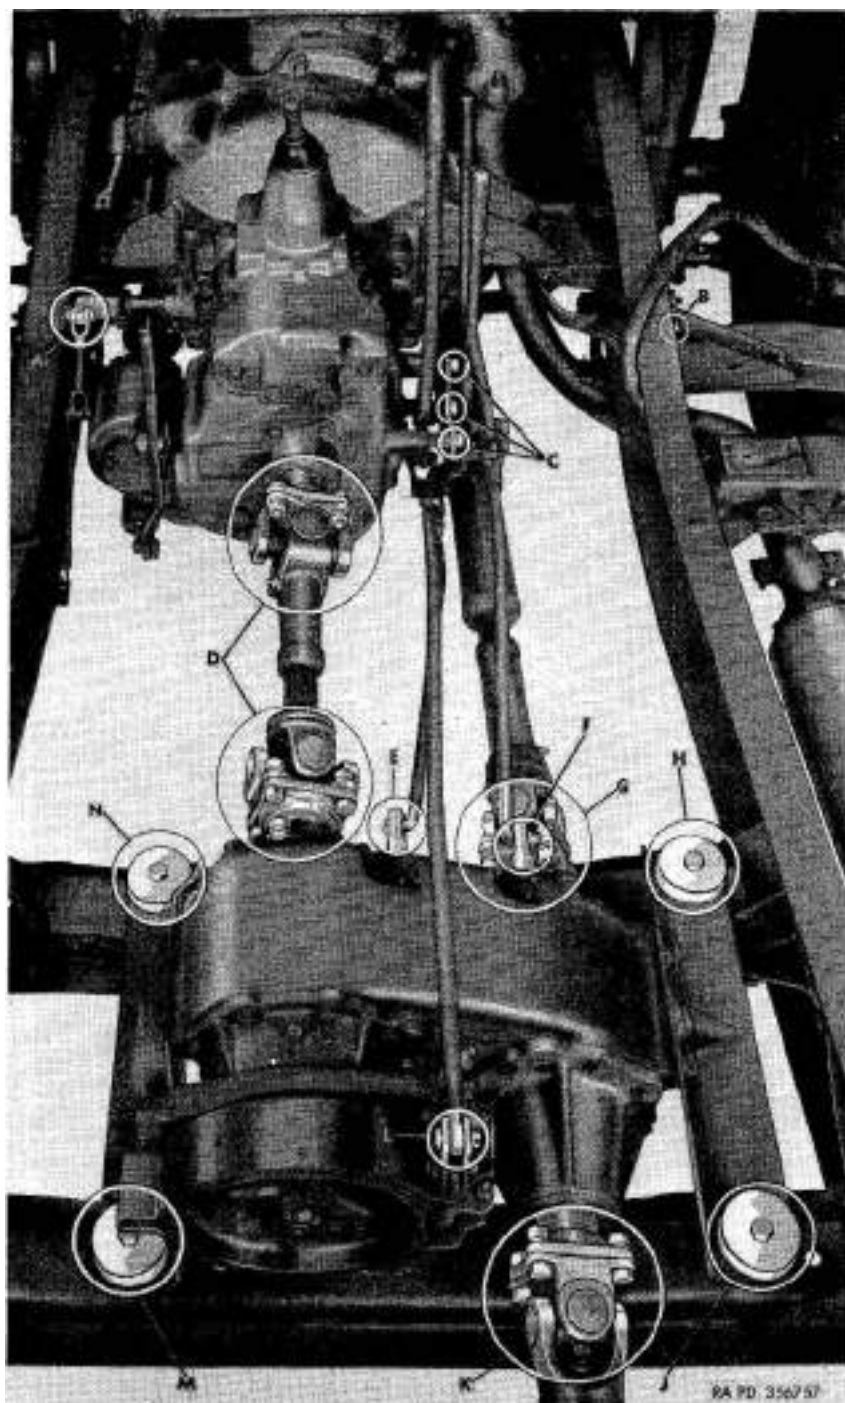
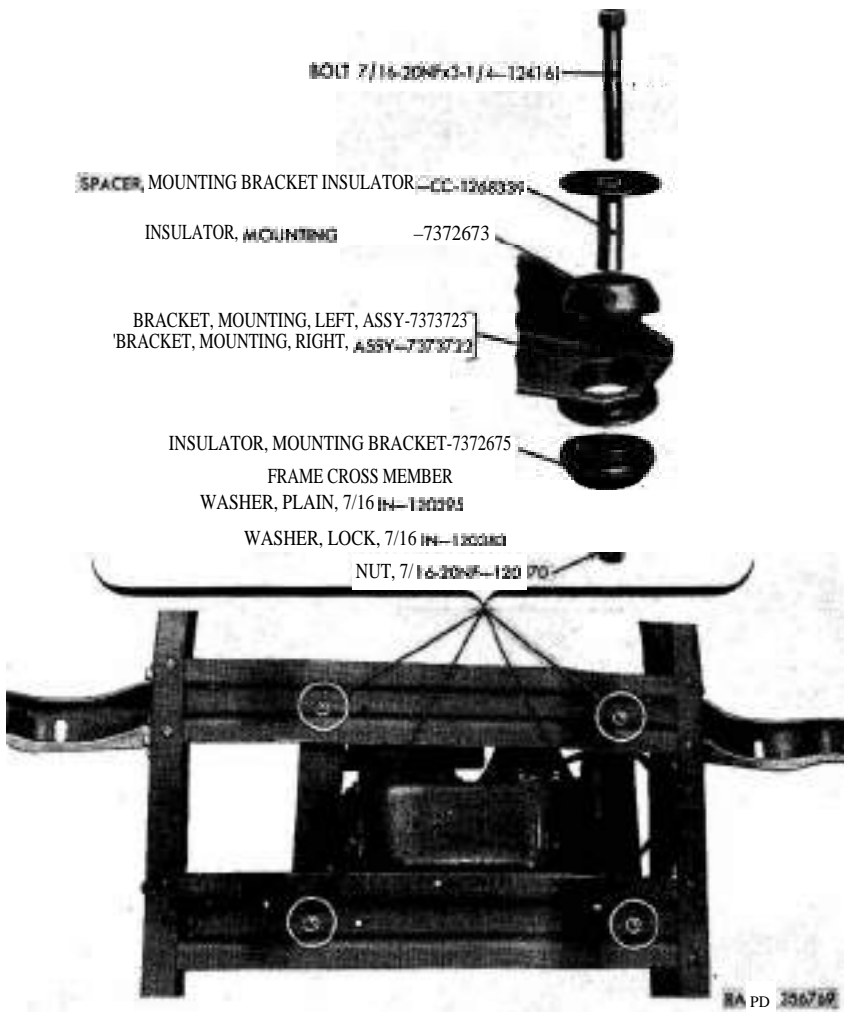

Figure 24. Power plant and transfer disconnect points.
Figure 28. Transfer mounting parts.
- (1) Remove transmission-to-transfer propeller shaft assembly (four bolts, nuts, and lock washers, each companion flange) (D, *fig. 24*).
- (2) Disconnect transfer shift lever control rods from transfer shifter shafts and hand brake rod from hand brake (E, F, and L, *fig. 24*) (three cotter pins and one clevis pin). Remove levers and bracket assembly from transmission (three screws and lock washers) (C, *fig. 24*).
- (3) Disconnect bonding ground strap on clutch housing at frame side rail (B, *fig. 24*) (one cap screw, nut, and two lock washers).
- (6) Remove cotter pin and clevis pin and disconnect clutch operating rod from clutch release fork lever (A, *fig. 24*).
Remove front axle and rear axle propeller shaft assemblies (four bolts, nuts, and lock washers, each companion flange) (G and K, fig. 24).
Remove nuts, plain washers, and lock washers from the bolts (H, J, M, and N, fig. 24), which attach transfer assembly to frame cross members (fig. 28). Lift transfer from frame cross members and remove transfer mounting bracket insulators, mounting bracket insulator spacers, and bolts.